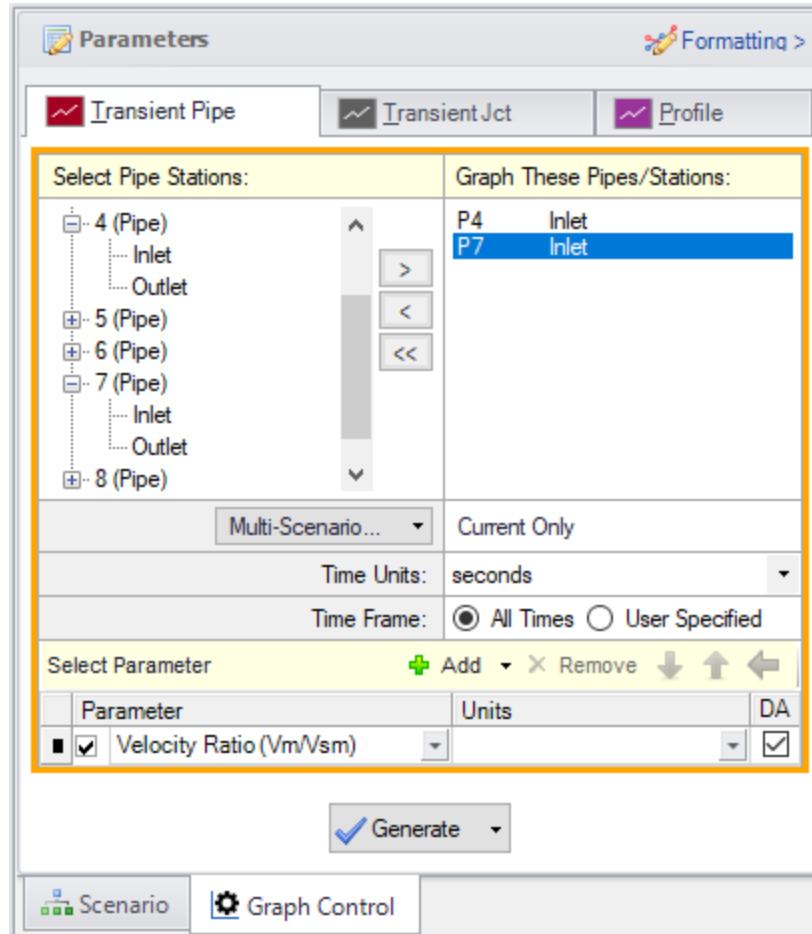

Figure 11: Data selection to view the velocity ratio over time
1. On the Transient Pipe tab, select Pipes P4 Inlet and P7 Inlet and add them to the Graph These Pipes/Stations list (Figure 11). These are the two sloped pipes which have the lowest velocity ratio.